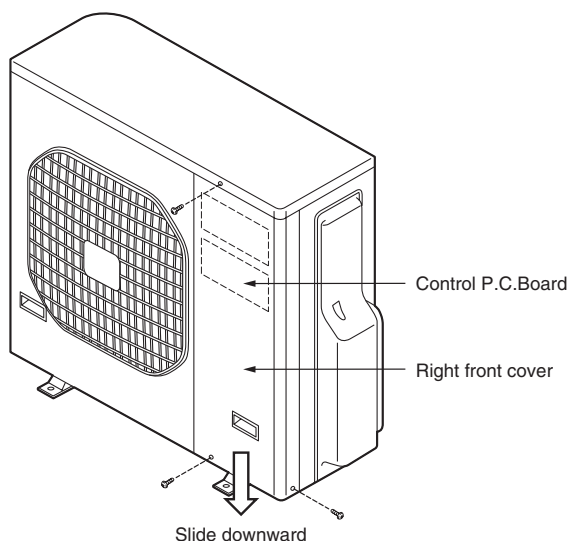

Fig.2 View from front
- Remove the 3 screws fixing the right front cover and remove the right front cover. (Fig. 2)
Refer to Fig. 2 in "7-3-1 Noise Reducing Control" for details.